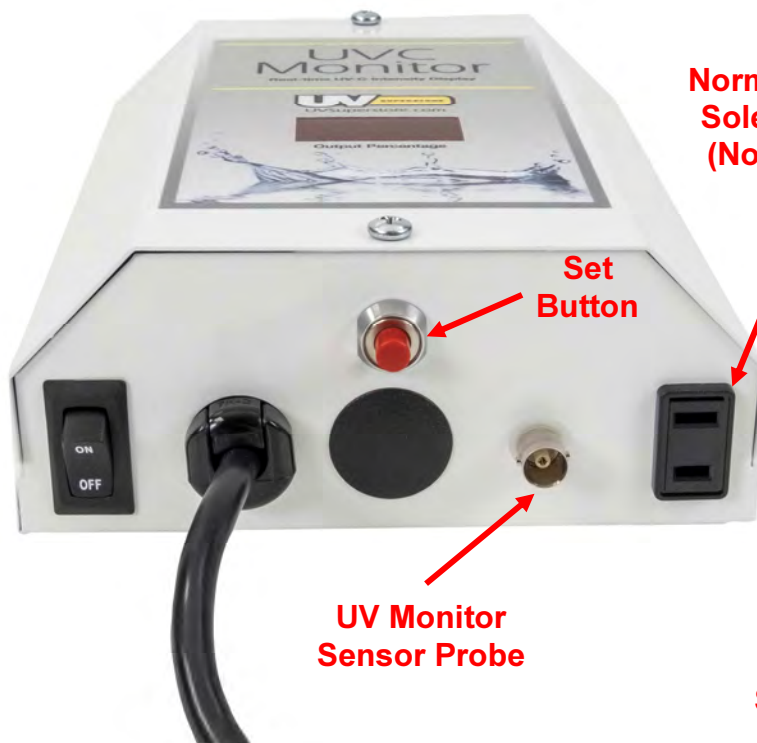

Figure 1
To set the low UV intensity alarm find the **SET** Push Button (See Figure 1)
1. Push and hold down the **SET** button (See Figure 1)